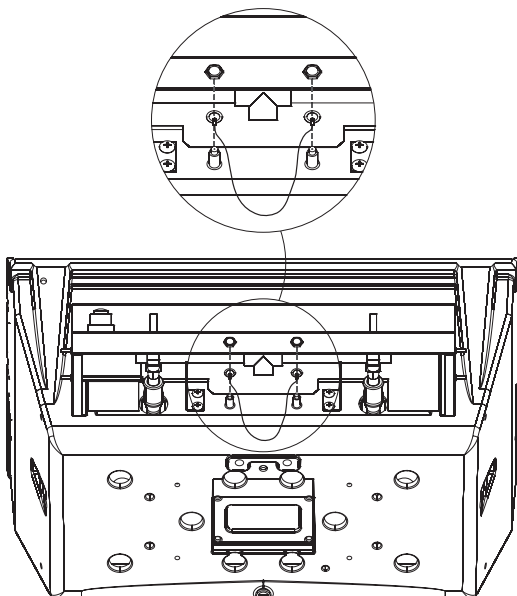

Figure 7
6. Attach ignitor ground wire ends onto ground lugs. Slide ground lugs (12) over ignitor wires and onto collector box assemblies. Slide nuts over ignitor wires and secure collector box assemblies to grill. See Figure 7.